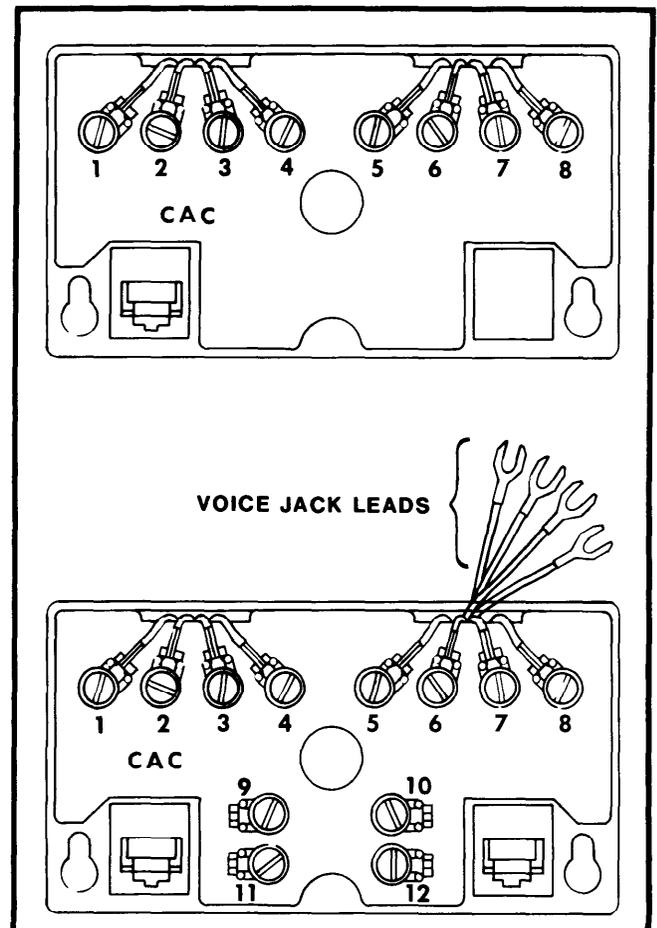

**FIGURE 1**
1.01 This instruction details the procedures for installing a 635A or 635B Ancillary Jack. See Fig. 1.